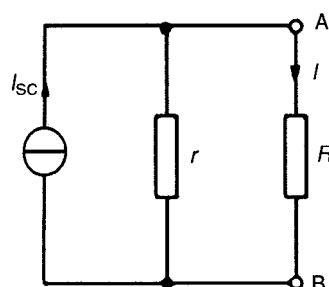

Figure 13.52
Note the symbol for an ideal current source (BS 3939, 1985), shown in Fig. 13.52
- determine the current I flowing in resistance R from the Norton equivalent network shown in Fig. 13.52, i.e.